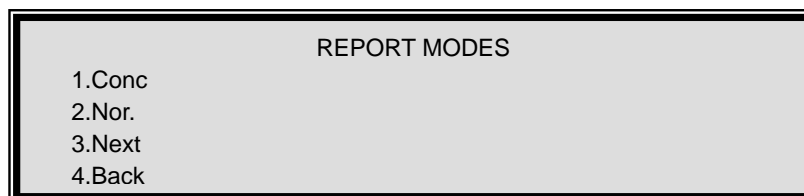

Fig. 16: Report Modes
2. When a calculation method is selected, the screen will display "**A=**". Please input the dilution multiple required by the reagent specification, and press **Enter** key to confirm your input. If the reagent is not diluted, please input **1** and press **Enter** key to go into the sub menu (Fig. 16).